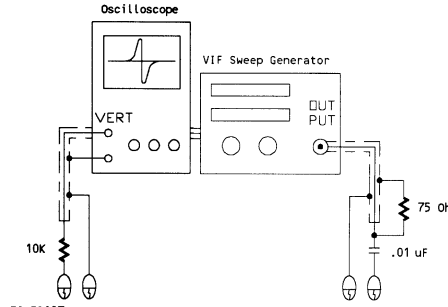

Fig.5
A. PREPARATION STEP (SEE FIG.5)